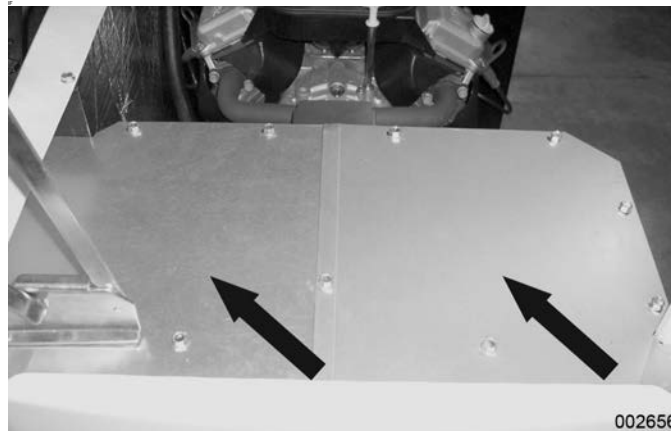

Figure 6-23.
2. **Remove Top Exhaust Enclosure Covers:** See Figure 6-23. Use a 10mm socket to remove the nine bolts from the exhaust top covers. Remove covers.